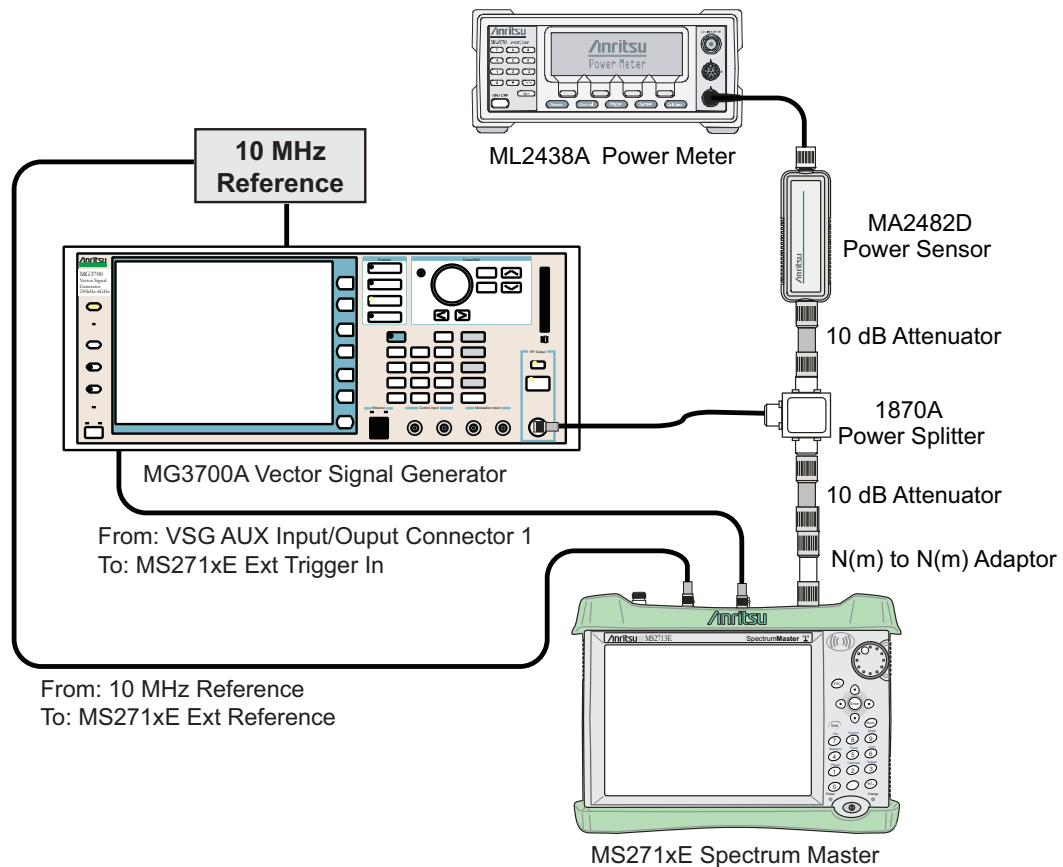

Figure 4-11. Fixed WiMAX Signal Analyzer Option Verification
3. Connect the equipment as shown in Figure 4-11.